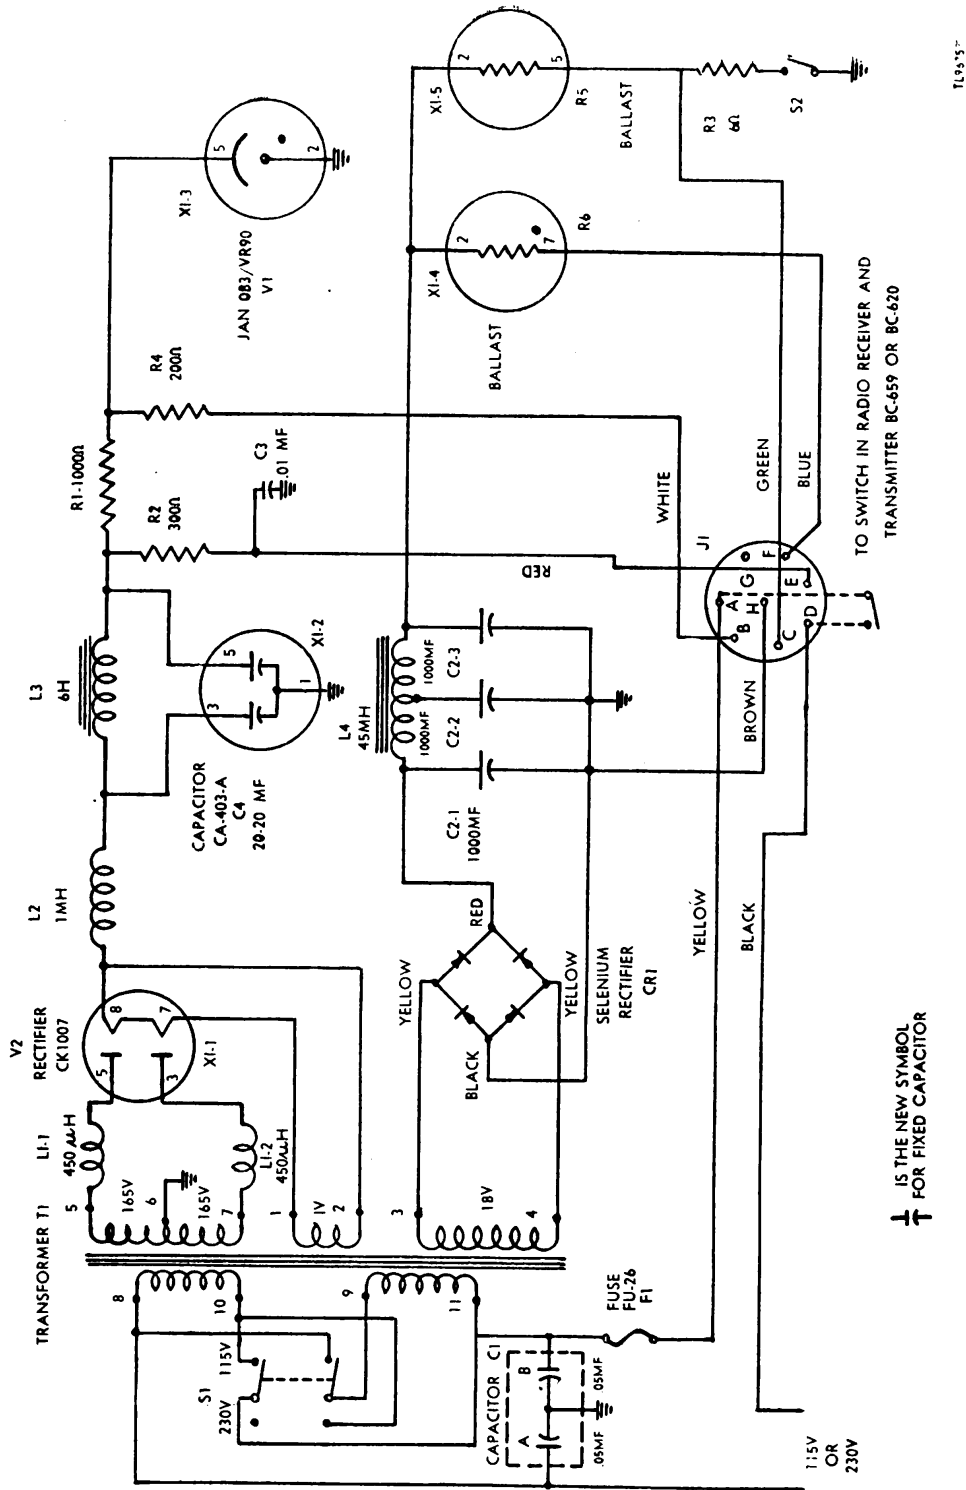

Figure 7. Rectifier RA-120, schematic diagram.
25. PRINCIPLE OF OPERATION (fig. 7).
- (1) Schematic diagram (fig. 7).